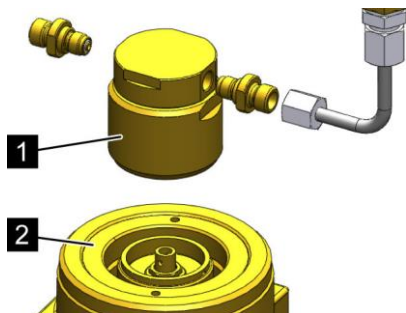

Fig. 84: Mounting the release device
4. → Screw the release device (Fig. 84/1) onto the valve (Fig. 84/2) from above, or screw on the electrical release device and tighten with $50 \pm 15 \text{ Nm}$ ($36.9 \pm 11.1 \text{ lbs}\cdot\text{ft}$) until it metalically rests on the valve.